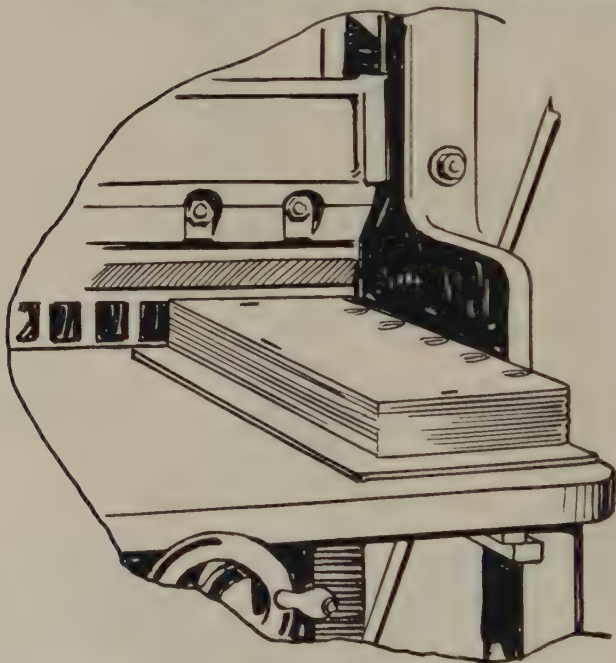

FIG. 193—BOOK BACK SNUG AGAINST RIGHT HAND GAUGE,
3. Place in cutting machine, *head first*, back of book against right-hand gauge of cutter, and with head of book against back-gauge. (Fig. 193.)